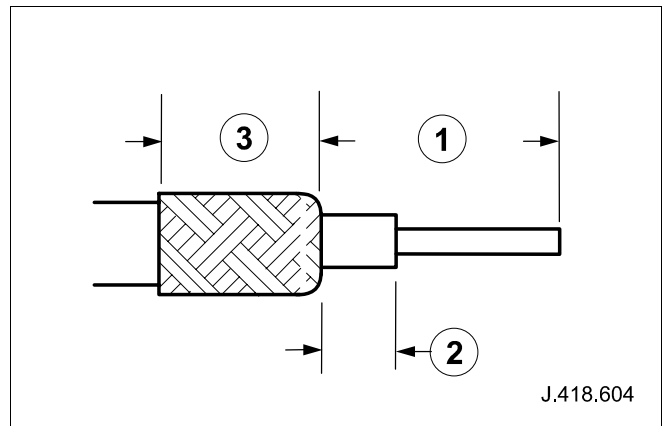

Fig. 25
- 87 Measure off 15mm from cut end of Jaguar link lead. (1 Fig. 25)
89 Fold back earth braiding over Jaguar link lead outer insulation. (3 Fig. 25)
90 Measure off 4mm along Jaguar link lead inner insulation from earth braiding. (2 Fig. 25)